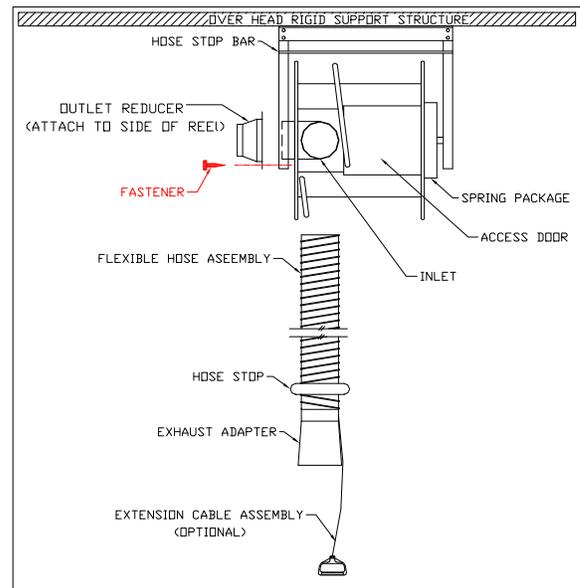

FIG2B - REEL DUCTED TO REMOTE EXHAUST FAN
6. For hose reel ducted to remote fan, fasten the flanged outlet reducer provided to the reel through the flange/tabs (not the cone portion of the reducer). Reference FIG2B.